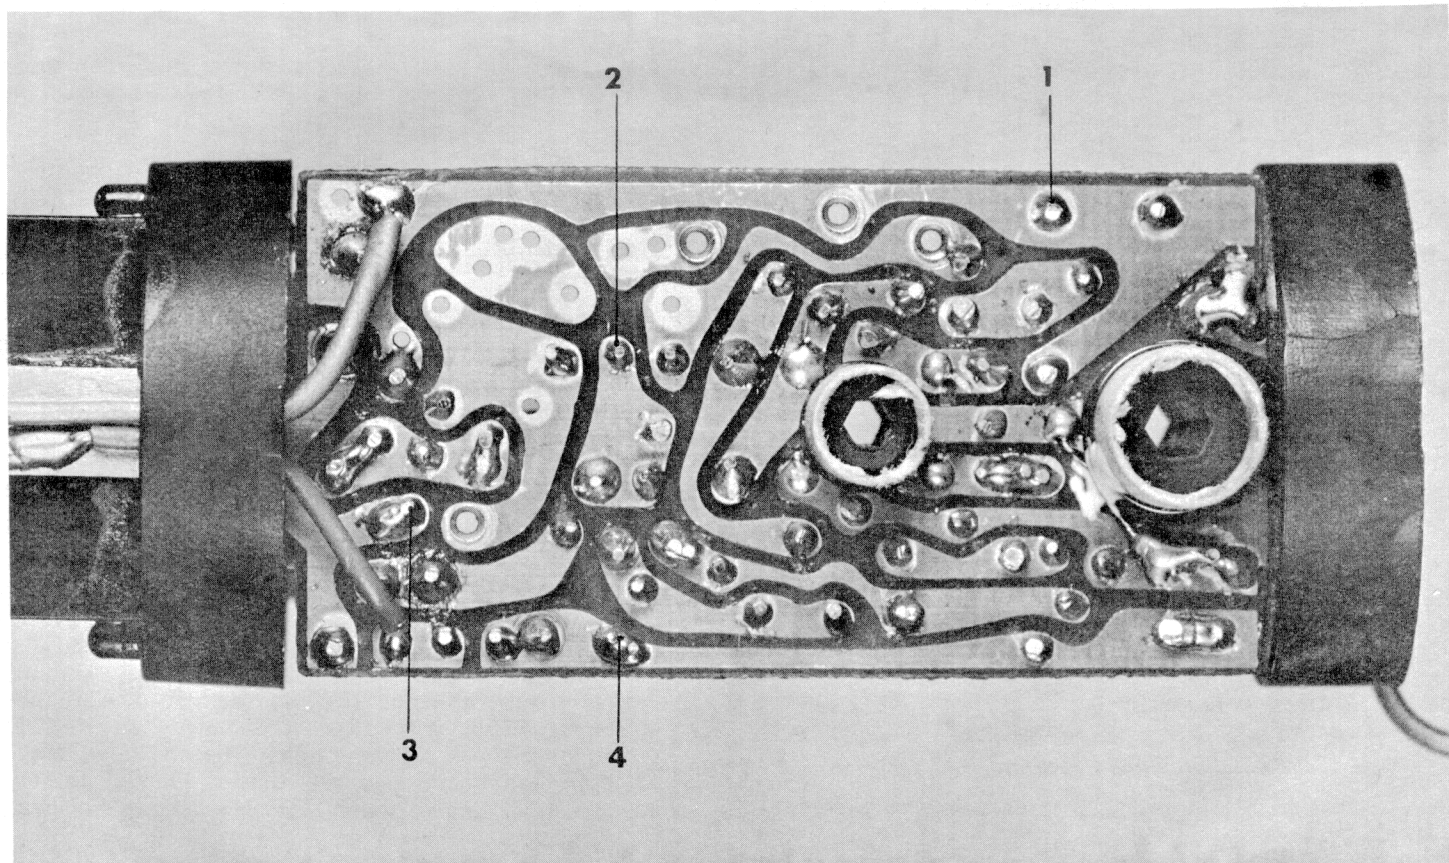

FIG. 3 BOTTOM VIEW, TRANSROC (RKT-F MODE)
35. () Inspect the bottom of the PC board (preferably with a magnifying glass), comparing it with Figure 3. Pay particular attention to the solder joints to see that the solder has flowed smoothly onto both the land and the wire lead. Inspect carefully to see that all of the eyelets which are in use are securely and smoothly soldered to their appropriate lands. Eyelets which are not soldered to the land will not make a reliable electrical connection. Over 90 per cent of TRANSROC problems could be eliminated if Steps 35 and 36 were carried out properly.
40. () Pass the red and black leads through the rectangular opening provided in the top mount as shown in Figure 3.